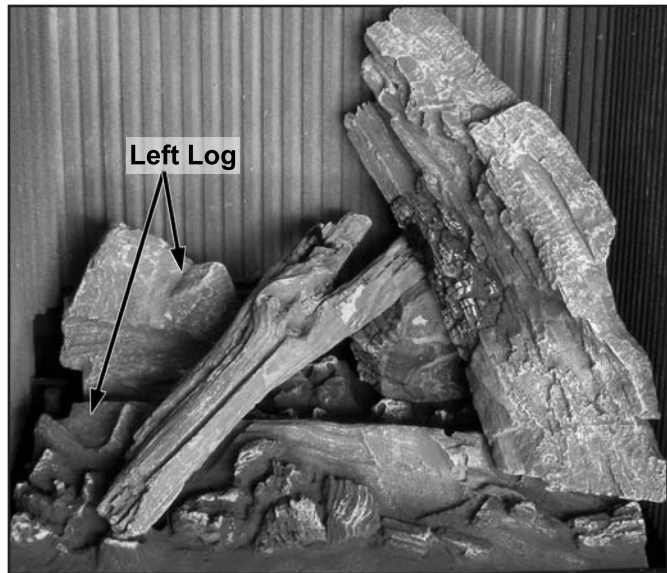

Figure 40: Log Placement of Left Log.
5. Place the bottom of the Left Log in the ledge at the front left of the burner and rest the middle of the log against the Left Rear Log Chunk as shown in Figure 40 and 41.